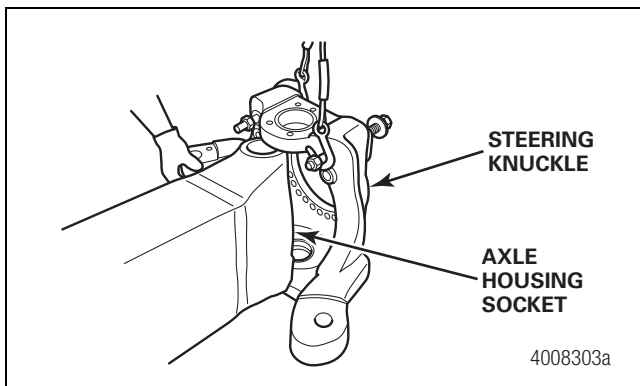

Figure 3.3
8. Use a lifting device to remove the knuckle from axle housing. Figure 3.3.